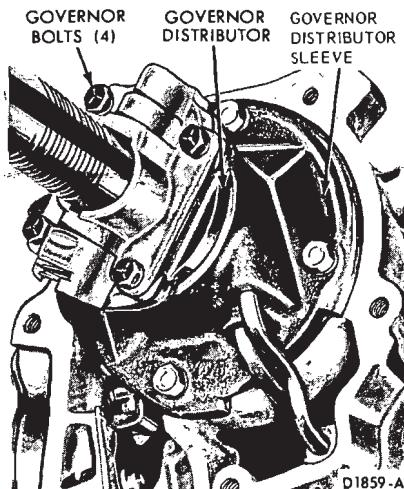

FIG. 25—Governor
7. Remove the governor housing to governor distributor attaching bolts (Fig. 25). Remove the governor housing from the distributor.
9. Install the governor housing on the governor distributor (Fig. 25). Install the attaching bolts and torque the bolts to specification.